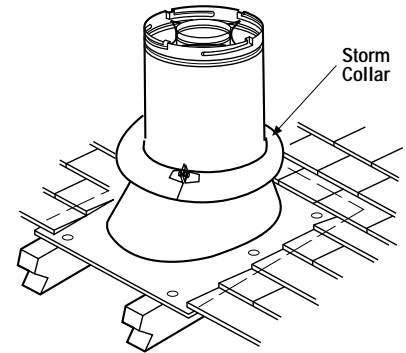

Figure 23
J. Install the storm collar - Install the storm collar, supplied with the flashing, over the vent/flashing joint. See *Figure 23*. Loosen the storm collar screw. Slide collar down until it meets the top of the flashing. Tighten the adjusting screw. Apply non-combustible caulking or mastic around the circumference of the joint to provide a water tight seal.